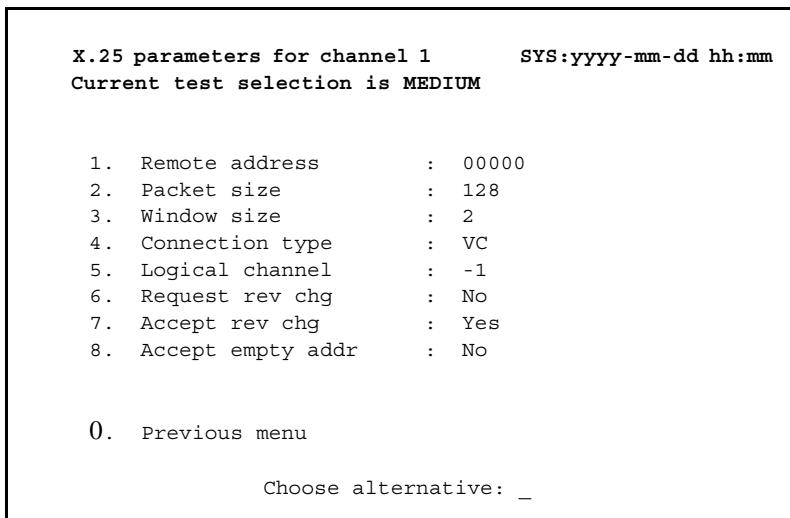

Figure 52 25 Parameters for Channel 1 menu.
- Alt 5. Displays the menu “X.25 parameters for channel 1” in *Figure 52*.